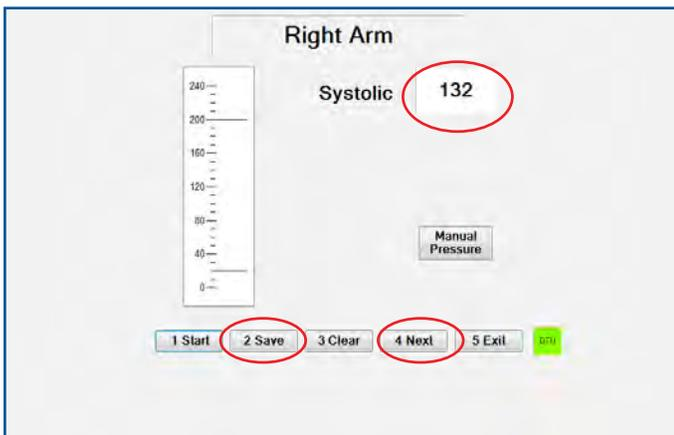

FIGURE 1.43 - Right Arm - Systolic Pressure, “Save” and “Next” Buttons
7. As the pressure is released from the cuff, click the foot pedal (or other device) or press “1” on the keyboard at the point of return of flow. The recorded pressure will appear in the Systolic field (Figure 1.43).
8. Click “Save” and “Next” to move to the next location (Figure 1.43).